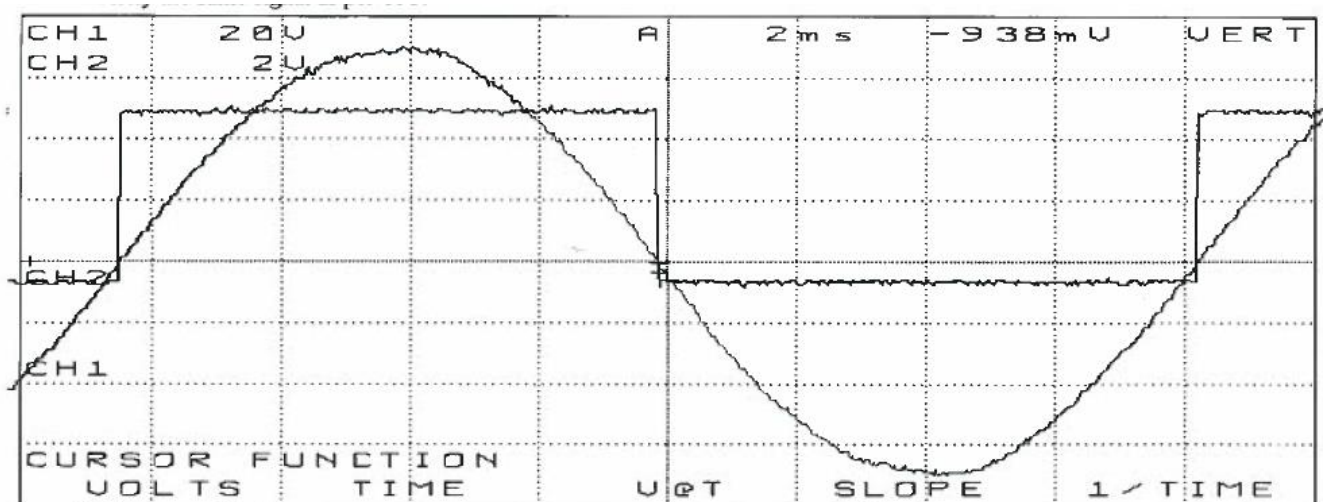

Figure 3
**6.2.6.1** Install jumper on CP45 and CP46 then apply isolated 115VAC between CP38 and CP41. Connect scope channel 1 to CP38 and scope channel 2 to TP5, scope common to JF25. Verify waveform below (Figure 3). Adjust R1 so the waveform crosses at zero. Move scope channel 2 to JF26 and verify the same signal as per TP5.